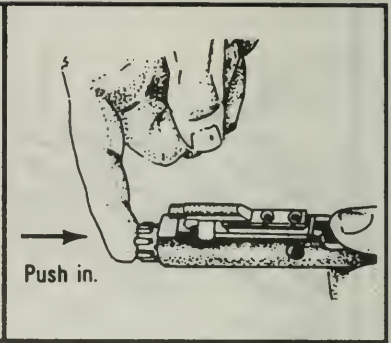

Figure 61. Bolt in the locked position.
k. Put the bolt assembly in the locked position by pushing in the bolt assembly (Figure 61).